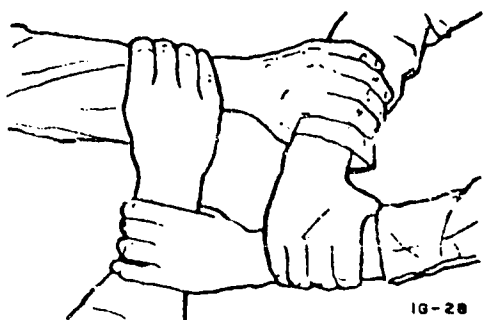

Figure 1-13. Front view two hand carry.
b. You both slide your arms under the casualty--one arm goes under the thighs and the other under the arms and behind the back. As you reach through, you and your assistant grasp wrists as shown in figure 1-13.